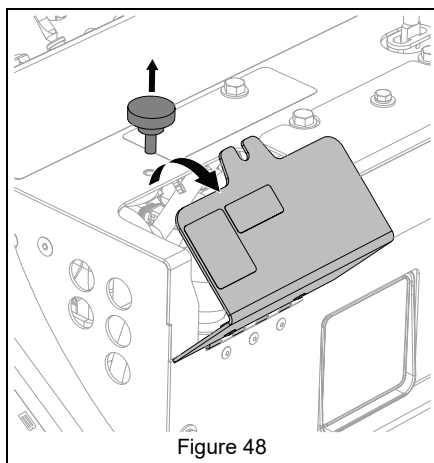

Figure 48
3. Remove black knob on access cover and swing lid open. See Figure 48.